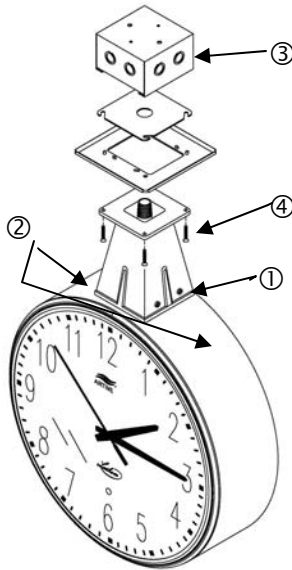

Figure 3: 15 inch Double Mount Installation
1. Attach the wall box (Fig. 3, #3) (If installing AC models route AC supply wires through the box)
2. Remove (3) #6/32 screws (Fig 3, #1)
- a. For battery models pull back either one of the access panels (Fig. 3, #2) and install 2 CR123A batteries in each clock and press the Reset button on each clock.
- b. For AC models connect wires of AC supply to the AC plug. Pull back either one of the access panels (Fig. 3, #2) and press the Reset button on each clock.
4. Reinstall the access panel with (3) #6/32 screws (Fig 3, #1)
5. Attach box adaptor plate to wall box with (4) #8-32 x 1" screws (Fig 3, #4) (If installing AC models route AC supply wires through center coupler)